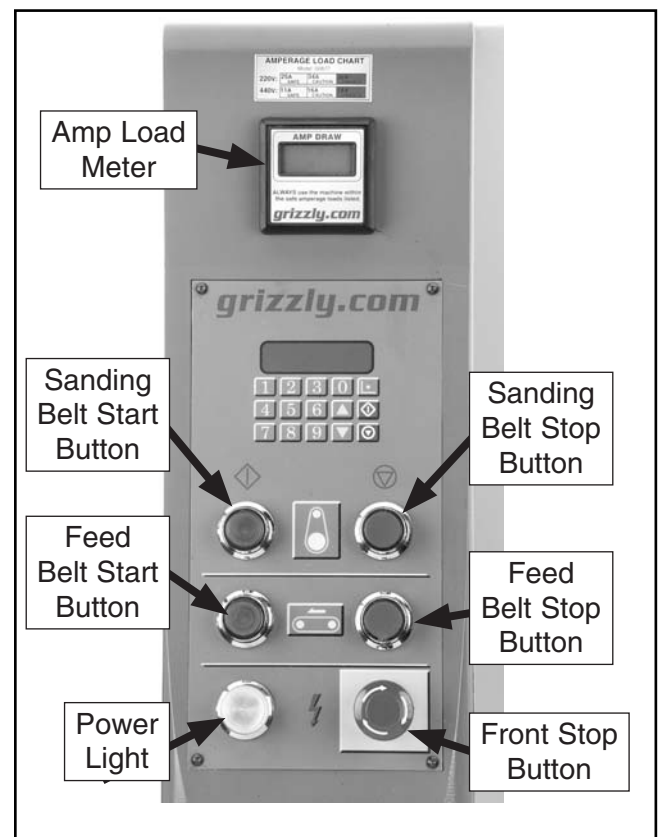

Figure 25. Control panel.
9. Press the FEED BELT START then the FEED BELT STOP buttons (see **Figure 25, Page 24**). The feed belt should start, run in the correct direction and stop smoothly.
Refer to **Figures 25–28** and the descriptions below to become familiar with the basic controls and components of your planer/sander.